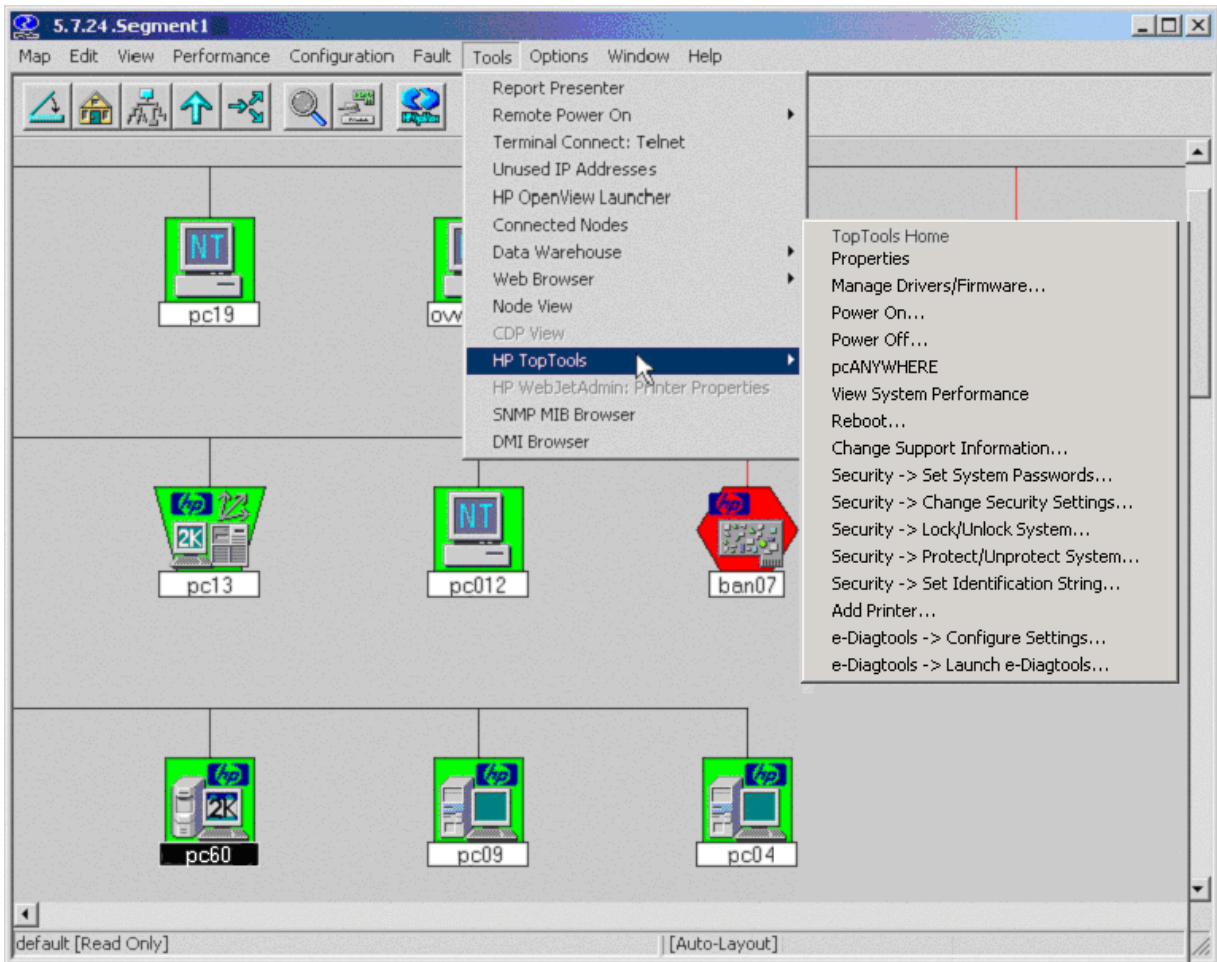

Figure 5-5. HP Toptools menu can be displayed from the Tools pull-down menu.
- *Protect/Unprotect System* access to the system front panel and power controls (see Figure 5-5).